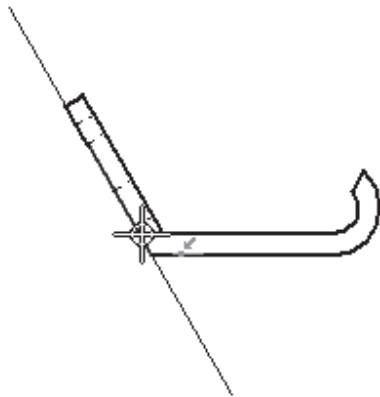
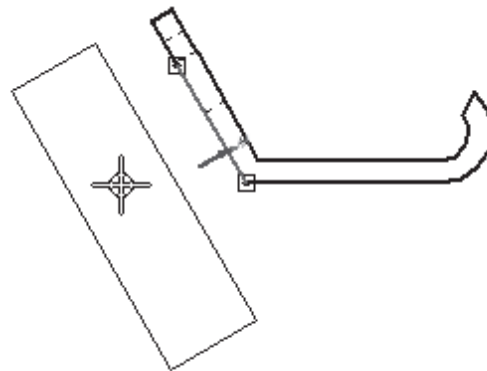
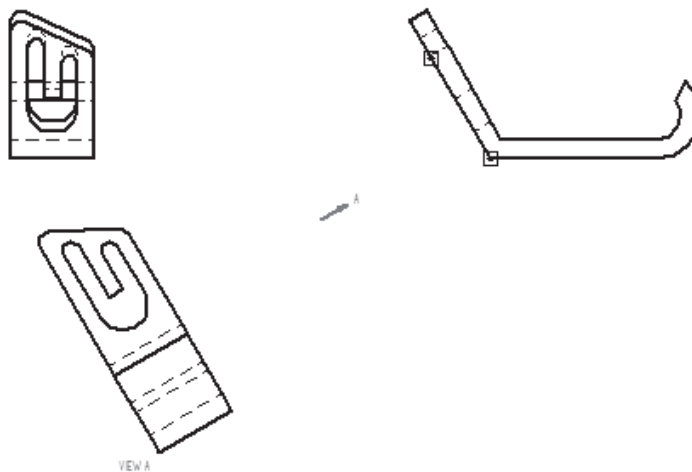

Figure 11-37 Edge to be selected
Figure 11-38 Moving the cursor to place the view
Figure 11-39 Drawing sheet after generating the auxiliary view
- Generate the drawing views, refer to Figures 11-37 and 11-39.
2. Select the edge, as shown in Figure 11-37. An imaginary fold line is formed and the auxiliary view is projected normal to this fold line. Move the cursor and to place the view, see Figure 11-38. After you place the view, the arrow pointing in the direction normal to the fold line is displayed, as shown in Figure 11-39.